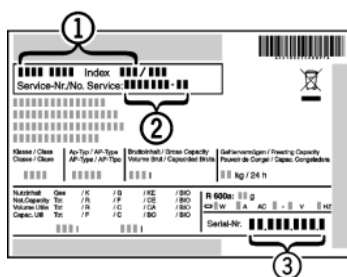

Fig. 17
- Read the appliance designation *Fig. 17 (1)*, service No. *Fig. 17 (2)* and serial No. *Fig. 17 (3)* off the type plate located inside the appliance on the left-hand side.
- Notify the customer service, specifying the fault, appliance designation *Fig. 17 (1)*, service No. *Fig. 17 (2)* and serial No. *Fig. 17 (3)*.